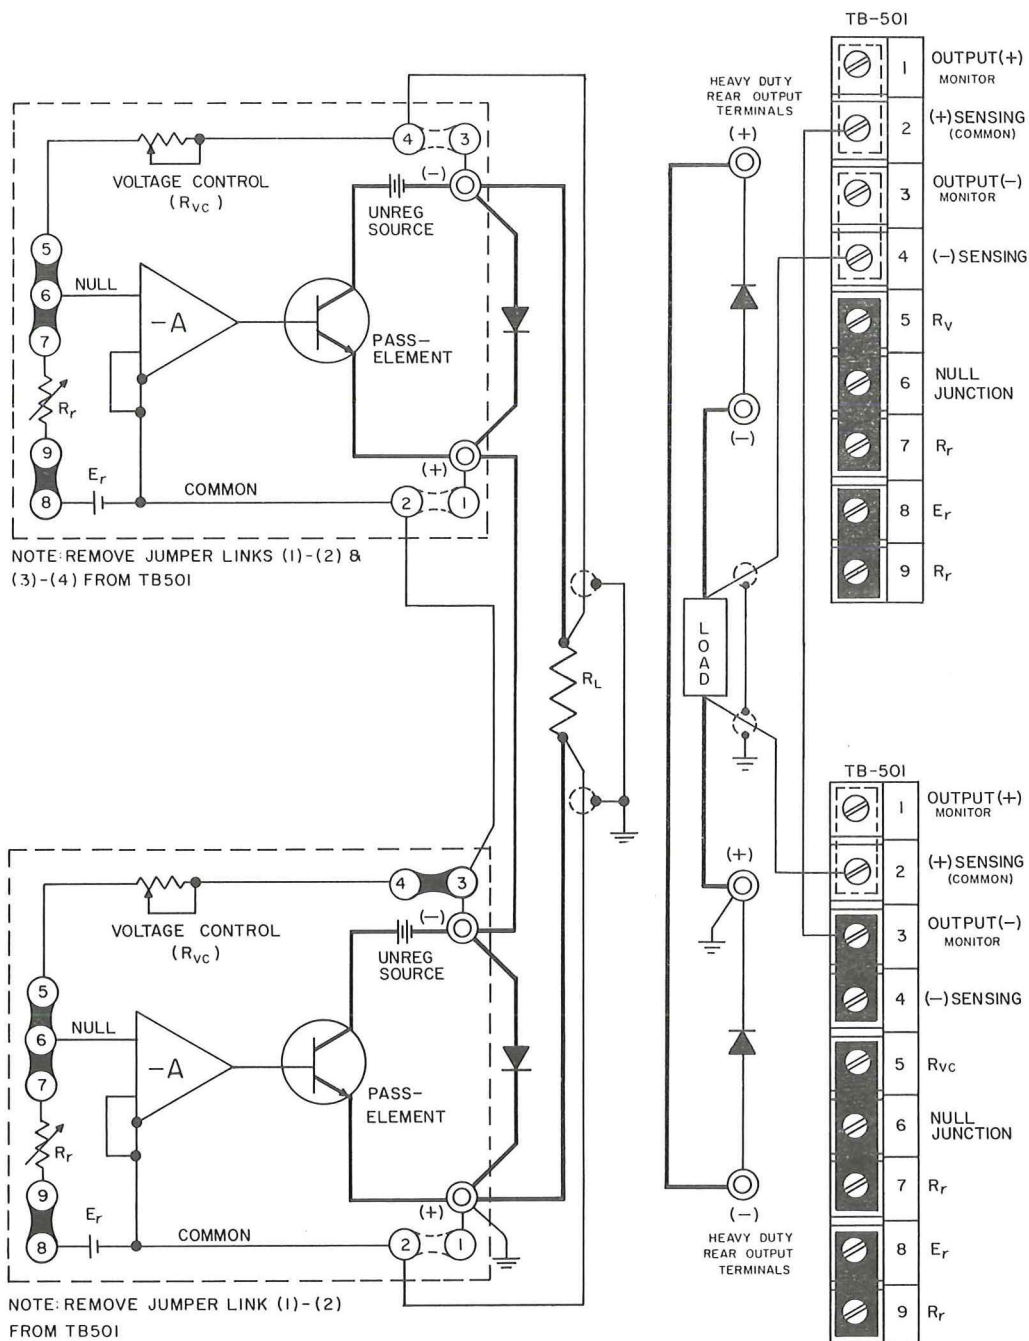
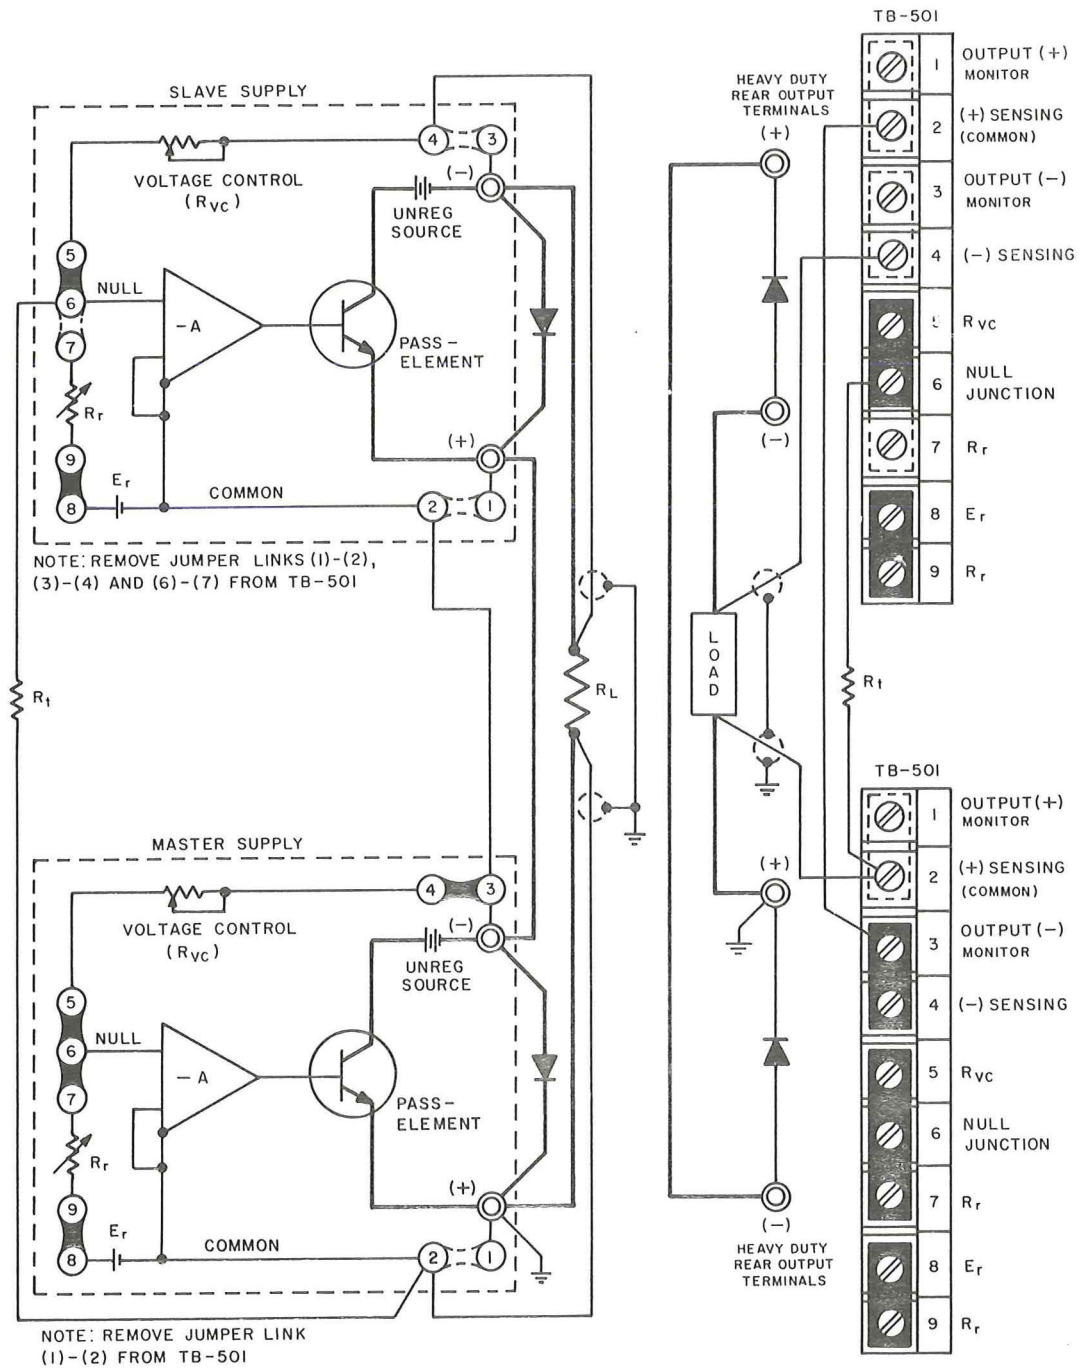

FIG. 3-10 AUTOMATIC SERIES CONNECTION OF KEPKO POWER SUPPLIES
FIG. 3-11 MASTER-SLAVE SERIES CONNECTION OF KEPKO POWER SUPPLIES
3-35 GENERAL. Kepco Power Supplies can be series-connected for increased voltage output, provided the specified limits on voltage to chassis are not exceeded. When series-connected, the supplies should be protected by means of a semiconductor diode across the output terminals of each power supply, as shown in FIG. 3-10. The peak inverse rating of these diodes must be at least as large as the output voltage of the supply to which they are connected. The continuous current rating of the diodes should be at least as great as the largest short-circuit current of the interconnected supplies.
3-36 Two basic series connection methods are generally used, the "Automatic Series Connection", as illustrated in FIG. 3-10, and the "Master-Slave" connection, shown in FIG. 3-11. The basic difference between these two alternate methods lies in the manner of the output control. While in the "Automatic" connection the outputs of both supplies may be controlled individually, in the "Master-Slave" connection, control is exercised from the "Master" supply alone, while the "Slave" supply follows the master command in a ratio which may be pre-determined by the user. The latter method of series operation is therefore frequently termed "Automatic Tracking".
- a) Connect load as shown in FIG. 3-10. Keep voltage drop in load wires as low as practical by using heavy gauge wire.
3-38 The "Master-Slave" series connection method is illustrated in FIG. 3-11. As seen from the figure, the reference voltage (E_r) of the "Slave" supply is disconnected and its input or null junction is connected to the output of the "Master" supply via the tracking resistor (R_t). The "Slave" supply output is thus completely dependent on the "Master" output voltage:
- a) Connect load as shown in FIG. 3-11. Keep voltage drop in the load wires as low as possible by using heavy gage wire.
- c) Remove jumper links as shown (FIG. 3-11) and connect error sensing leads if remote sensing is desired. Sensing leads should be twisted and shielded.
- d) Select value of the tracking resistor (R_t) and connect with shielded wire as shown (FIG. 3-11)